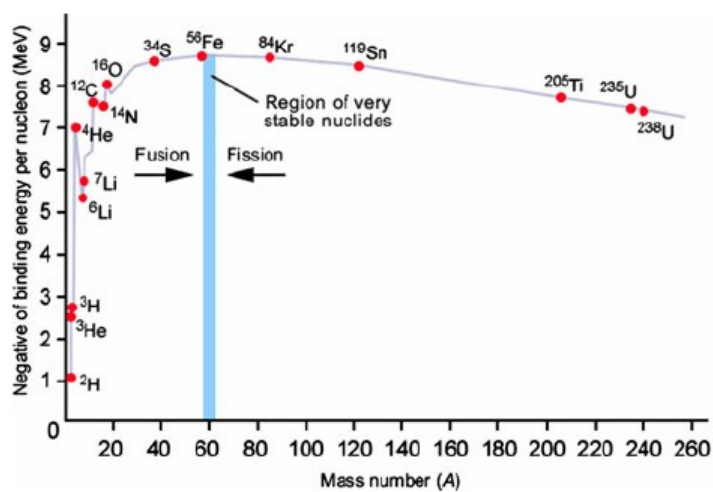

Figure 1
How binding energy per nucleon (in MeV) varies against mass number (A) is displayed in Figure 1. This graph illustrates some important information about nuclei and their binding energy.
The behaviour of the nuclear binding energy with ' A ' in Figure 1 shows that for $A < 56$, binding energy per nucleon is increased as the mass of isotopes increase; or, in other words, by isotopes 'capturing' another nucleon (p or n) or an α -particle. This is the origin of fusion reactions occurring in stars and fusion reactors.
- a) According to the graph in Figure 1, the isotope with the greatest binding energy per nucleon is Fe-56. Use the data in the table below (and information from your Data Booklet) to show that the binding energy per nucleon for Fe-56 is about 8.6 MeV. Show all working.
i. Use Figure 1 to estimate the binding energy per nucleon (in MeV) for U-235.